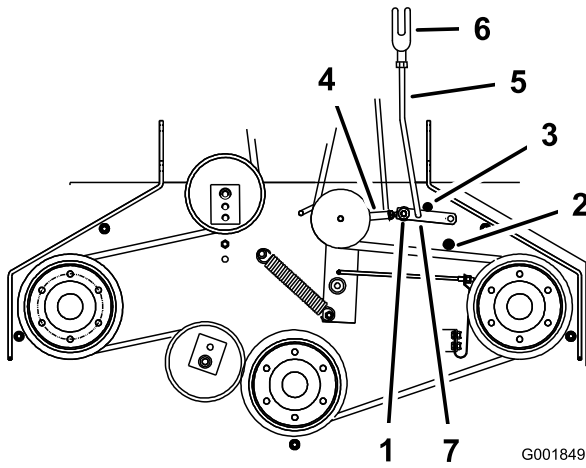

Figure 47
- Make sure the assist arm is against the rear assist arm stop on the deck (Figure 47).
- The assist arm should contact the front assist arm stop on the deck. If it does not contact, adjust the bellcrank so it is closer to the gusset (Figure 47).
8. To adjust the assist arm link, remove the hairpin cotter pin from the assist arm (Figure 47).
11. Install the assist arm link into the assist arm and secure it with the hairpin cotter pin (Figure 47).